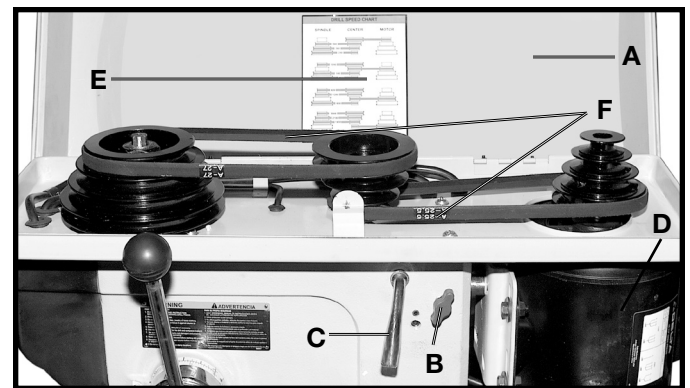

Fig. 28
NOTE: A BELT POSITIONING SPEED CHART (E) FIG. 28, IS LOCATED ON THE INSIDE TOP COVER OF THE DRILL PRESS.
1. Lift up the belt and pulley guard (A) Fig. 28.
2. Release belt tension by loosening tension lock knob (B) Fig. 28, and the tension knob located on the other side of the head casting and moving tension lever (C) forward, pivoting the motor (D) toward the front of the drill press.
4. After the belts are positioned on the desired steps of the motor and spindle pulleys, move motor (D) Fig. 28, to the rear until the belt is properly tensioned and tighten tension lock knob (B). The belt should be just tight enough to prevent slipping. Excessive tension will reduce the life of the belt, pulleys and bearings. Correct tension is obtained when the belts (F) can be flexed about 1" out of line midway between the pulleys.